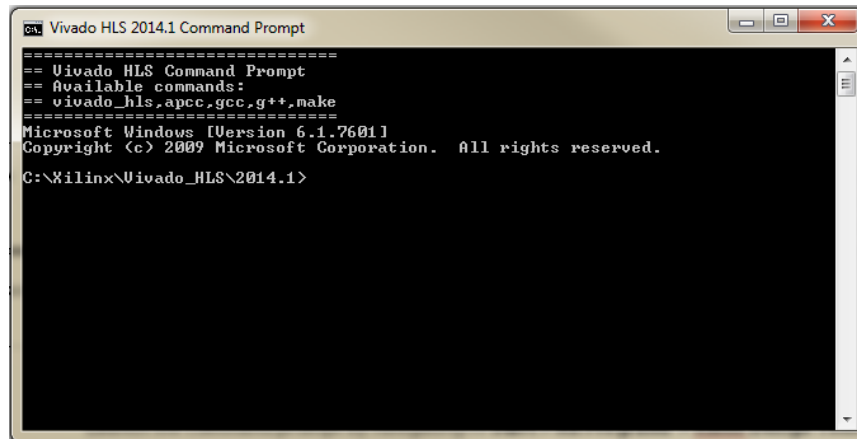

Figure 3.5: Vivado HLS command prompt
- (k) It is observed that the default directory for commands is the install directory of Vivado HLS, as in Figure 3.5. To change this to the working directory for this tutorial, use the following commands, followed by pressing the **Enter** key.